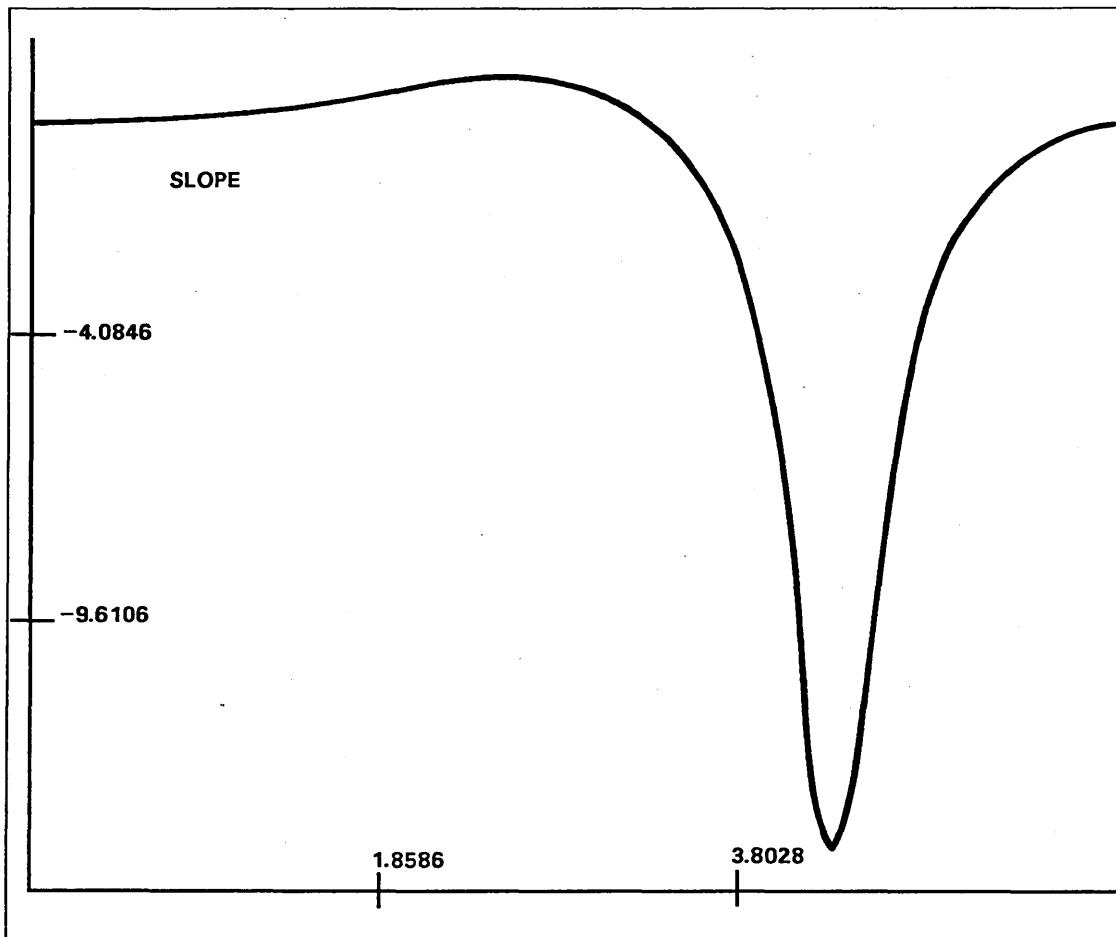

Figure 2-5. Slope of the Spline
- 1 To display a graph showing the slope of the spline. The current display is replaced by a plot of the spline's parametric range along the horizontal axis of the graph versus the spline's slope along the vertical axis of the graph. The slope is the rise/run at a specific position (parameter) along the spline. When the run is 0 (that is, the spline is at 90° or 270°), the slope is considered infinite. In this case, the plot is broken by a vertical dashed line to represent the infinite slope. (Refer to figures 2-5 and 2-7.)